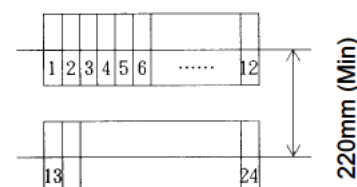

Fig. 2
- ② Make separation for over 220mm between units when put it vertically. Do not block the up and down opening part. (Fig.2)